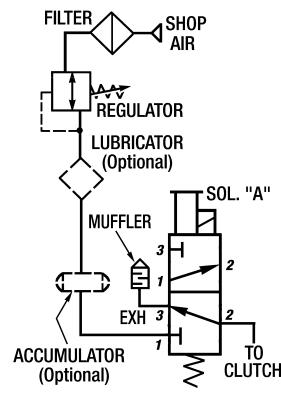

Figure 4 - Pneumatic Control Valves and Diagrams
*Figure 4* shows the pneumatic control valves and pneumatic diagrams for the X Class Posidyne Clutch/Brake Unit.